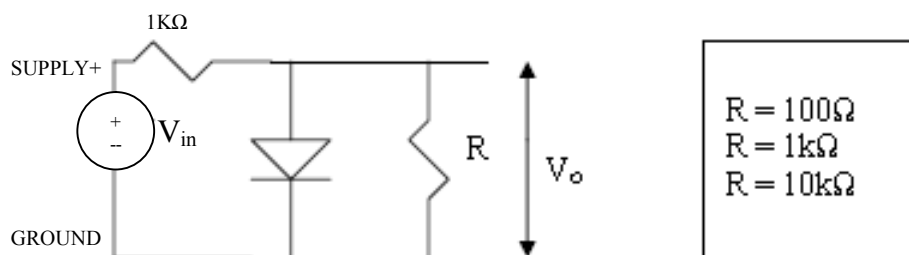

Figure 1.5: Simple Diode Circuit
You should have simulated the diode-resistor circuit shown in Figure 1.5 with the values of  $R$  given below.
- Build the circuit shown in Figure 1.5 on the NI-ELVIS breadboard with  $R = 100\Omega$ . Use the 1N4001 or the 1N4004 diode.
- Repeat steps a to c for the other values of  $R$  given in Figure 1.5 and complete Table 1.2, below.
Table 1.2: Measured  $V_o$  for circuit in Figure 1.5